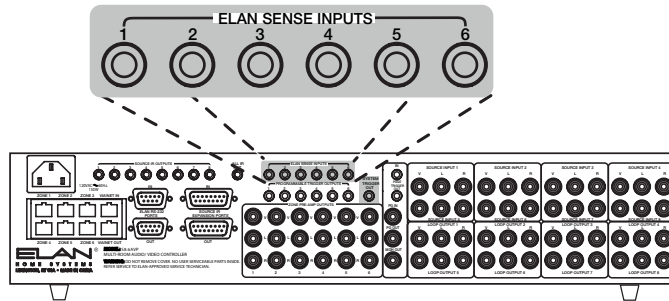

Figure 1-18. ELAN Sense Inputs
The ELAN SENSE INPUTS(11) are primarily for use with VIA! Touch Panels and Olé Touch-pads. An ELAN™ SENSE Sensor can be connected that will cause touch panels and touch-pads to execute IR or serial commands (see **Figure 1-18**).